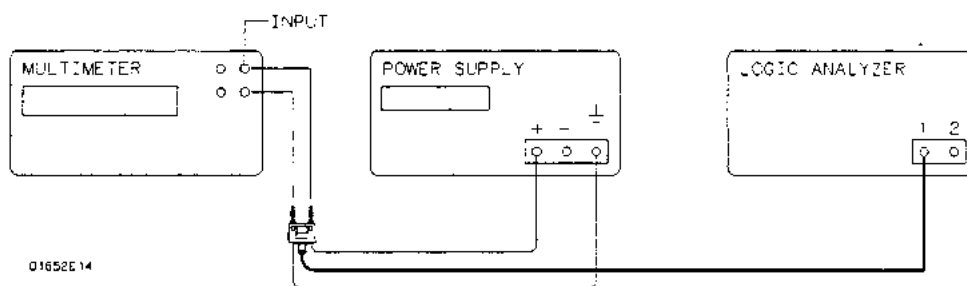

Figure 3-50. Setup for DC Offset Accuracy
1. Connect the HP 1652B/1653B and test equipment as in figure 3-50.